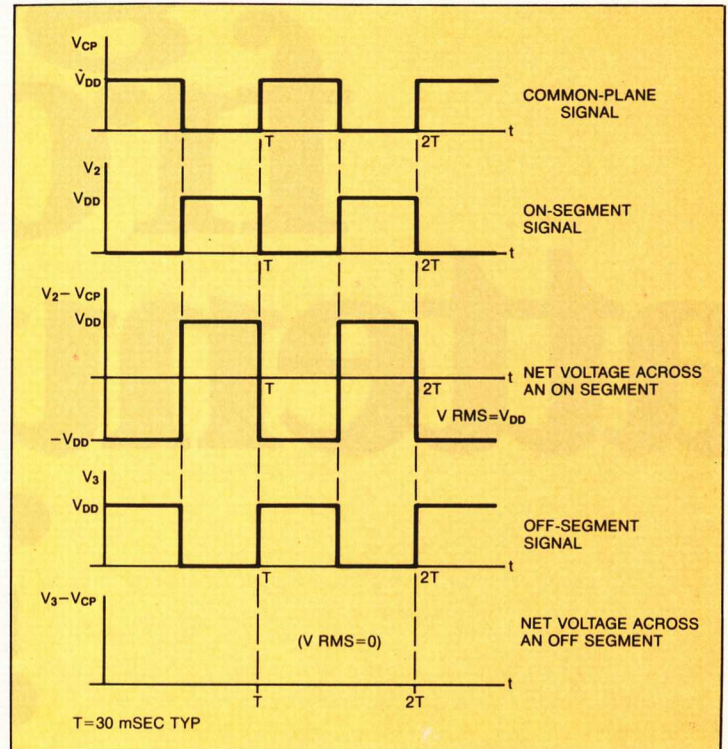
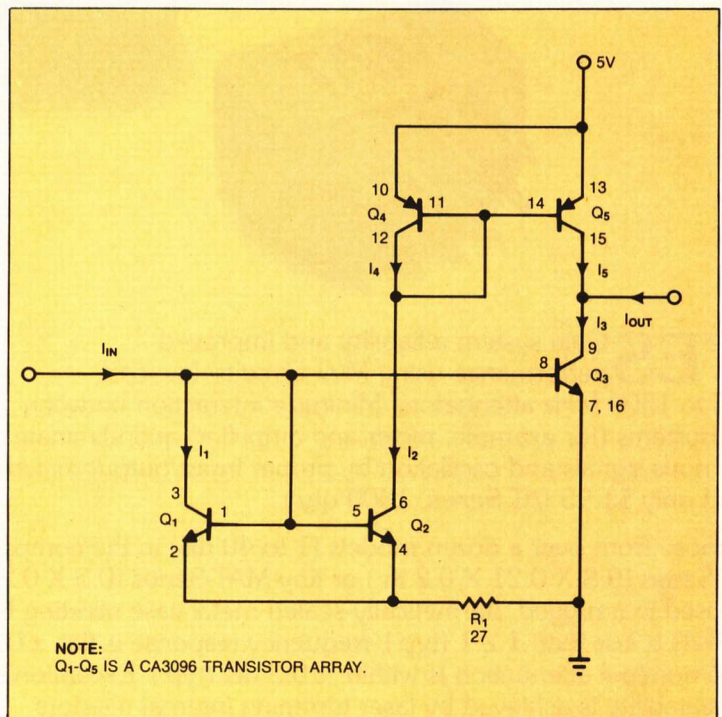

Fig 2—These waveforms show the polarity and time relationships for typical LCD-drive signals.
Fig 1—This transistor-array circuit performs square-law amplification of  $I_{IN}$ .
Every 15 msec, the  $\mu$ P routes  $n$  bytes of data from memory to the parallel-in/serial-out shift register IC1. The 4-bit counter IC2 causes the register to shift out this data in 8-pulse bursts. The data bytes allow the latched shift registers (IC3, IC4, etc) to produce the required segment and common-plane (CP) waveforms (Fig 2).
A simple 5-transistor array and a resistor (Fig 1) generate a square-law relationship between  $I_{IN}$  and  $I_{OUT}$ . The circuit is useful in PLL frequency synthesizers and other closed-loop systems requiring square-law amplification in the feedback path.
In short, the circuit produces a useful squaring characteristic for low  $2qR_1/KT$  ratios and low input currents. **Fig 2** shows the measured and calculated results for a CA3096 transistor array and a  $27\Omega$  resistor. You can extend the 20:1 output-current range by using transistor pairs with tighter  $V_{BE}$  matching and
**Fig 2**—These curves illustrate the performance of **Fig 1**'s circuit. The curve labeled **A** represents the ideal squaring function, the curve labeled **B** shows the calculated function, and the two curves labeled **C** form an envelope for the results obtained using five different CA3096 arrays.